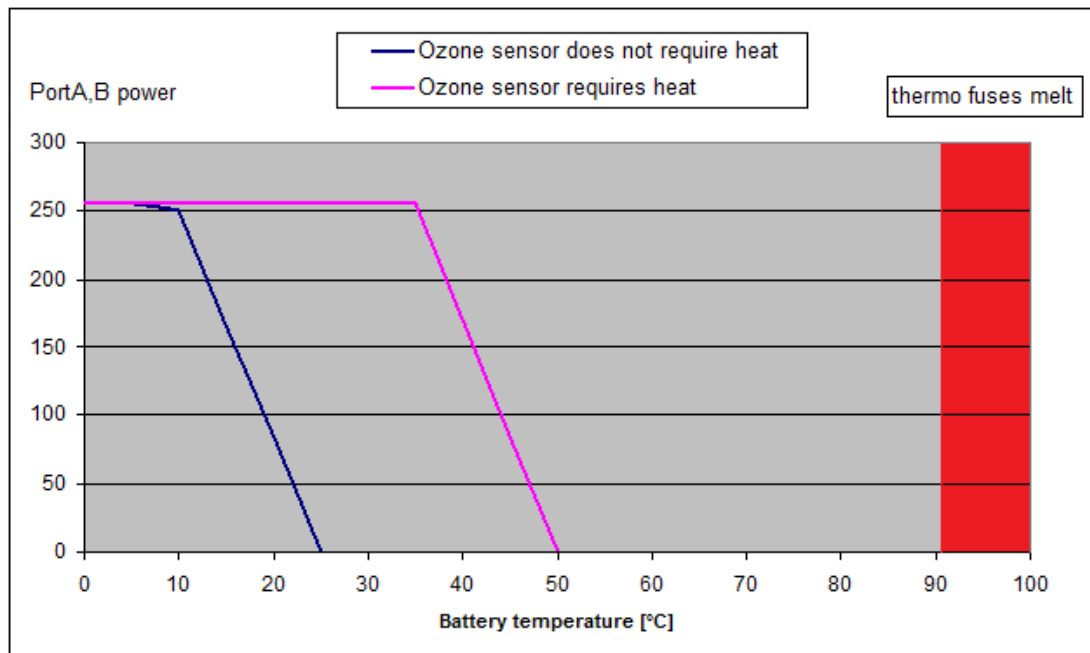

Fig. 11 : 3W-heater power in function of the battery temperature
- $p = -5 \cdot \text{bat\_temp} / 3 + 412$  (ozone sensor doesn't need any heating) cf. Fig. 11